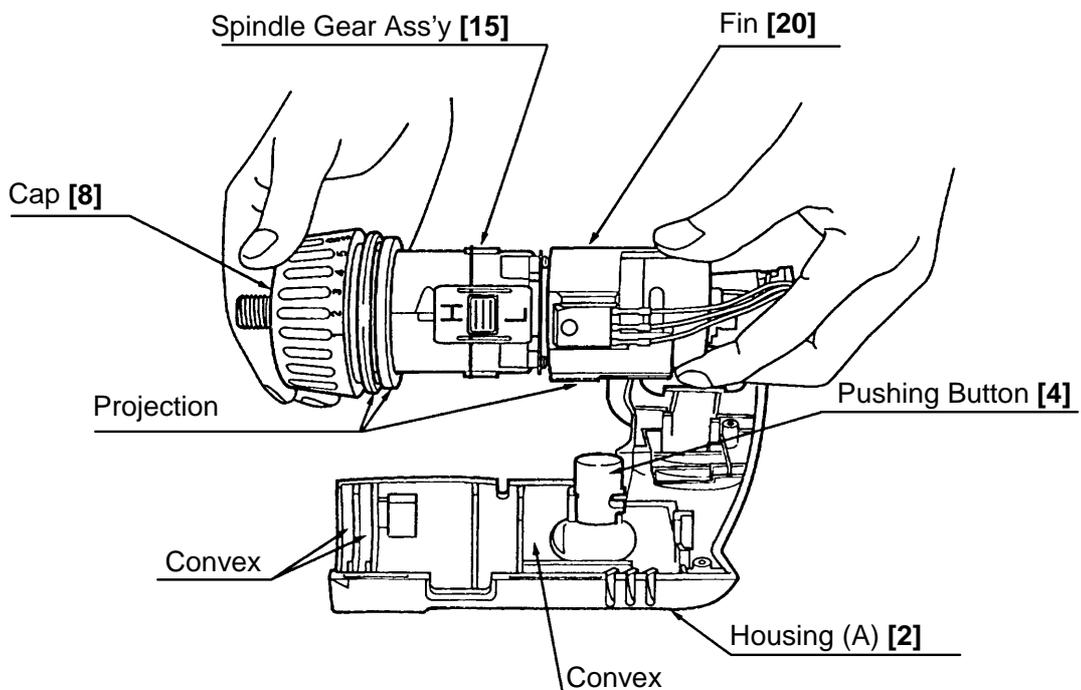

Fig. 13
- (4) Install the assembled parts from step 3 into Housing (A) (B) [2].
- (a) Install the Pushing Button [4] into Housing (A) [2].
- (b) Install the assembled parts from step 3 into Housing (A) [2]. Make sure that the projection at Fin [20] is fitted in the recess at Housing (A) [2] and the projections at the Cap [8] and Spindle Gear Ass'y [15] fit in the recess in Housing (A) [2]. (See Fig.13.)